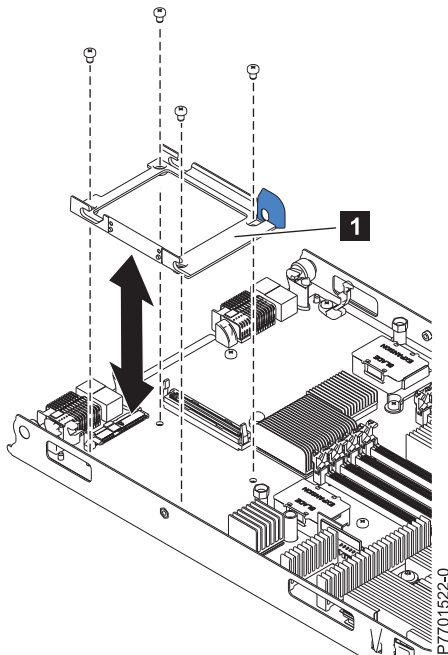

Figure 31. Removing the disk drive tray
6. Remove the four screws that secure the drive tray (**1** in Figure 31 on page 268) to the system board and remove the drive tray.